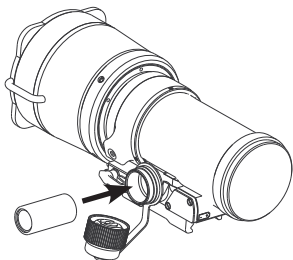

Figure 2-2. Battery Installation
- D.** Install the battery into the battery compartment. Follow battery symbol on the sight body (see Figure 2-2).